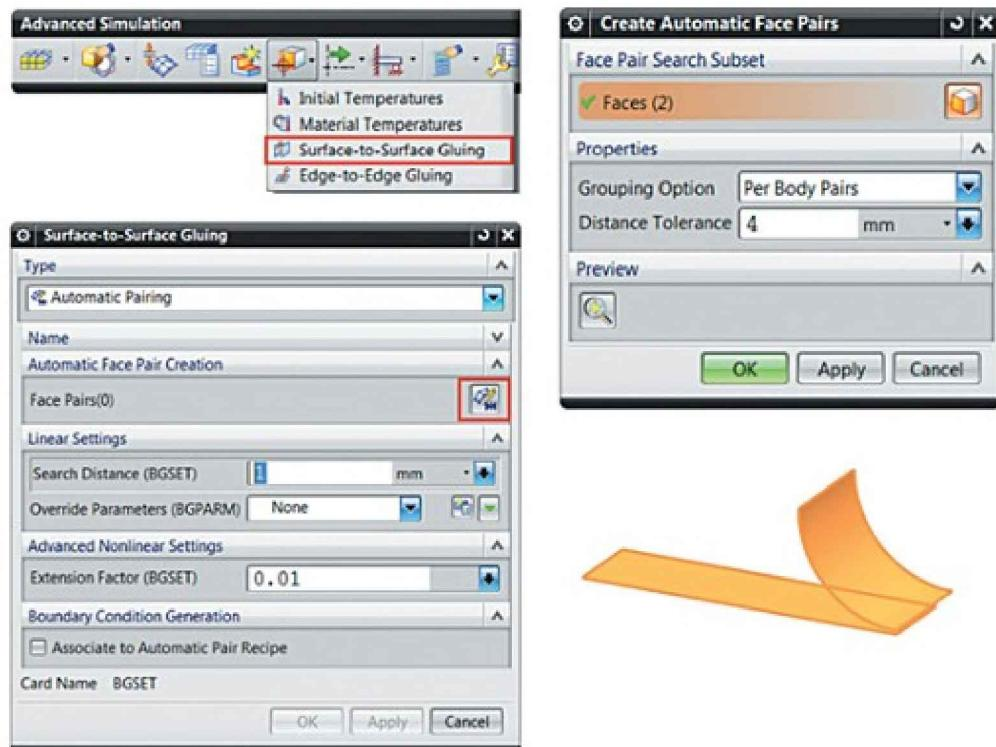

Figure 1.42. Setting up a Surface-to-Surface Gluing simulation object
- In the new dialog box, select all faces as shown in Figure 1.42.